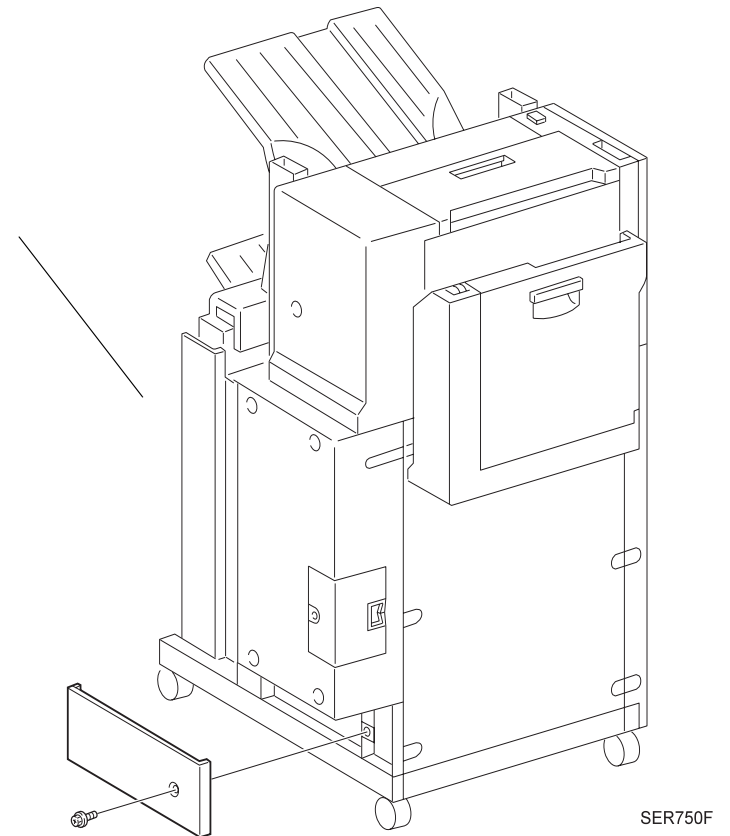

Figure 3-13. Add Cover
1. Place the Add Cover as shown in the Figure 3-13.